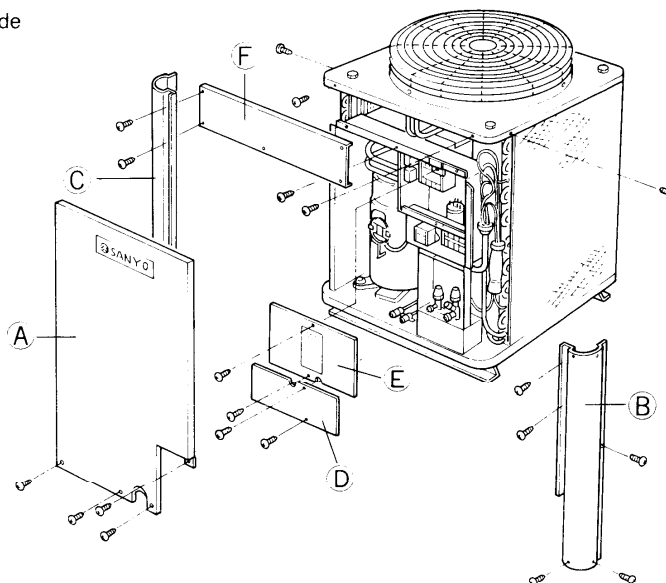

Fig. 17
- 1 ) As wires are to be removed at many places, refer to the electric diagram on the rear of the cover plate (E) (Fig. 17) for the removal, and at the time of reconnection after exchange of the compressor, refer to this diagram to prevent wrong connections.